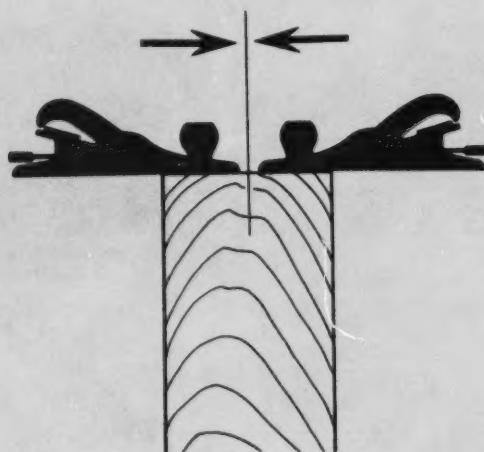

Figure 5-23 Planing the end grain
5. Move to the other side of the end and plane to the center again (*Figure 5-23*).